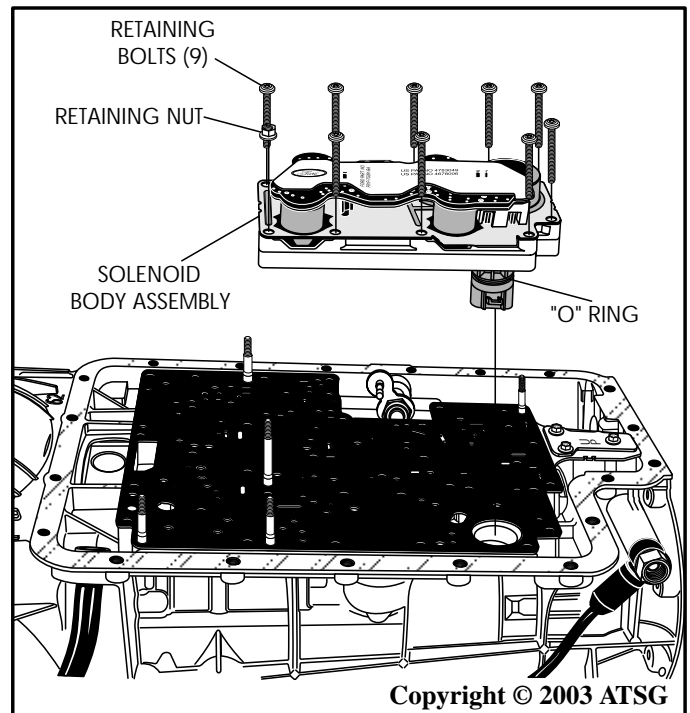

Figure 51
7. Remove the solenoid body retaining nut and the 9 retaining bolts, as shown in Figure 51, and remove the solenoid body assembly.
8. Remove the solenoid body by lifting up with a small twist to free the connector "O" ring from the case bore (See Figure 51).